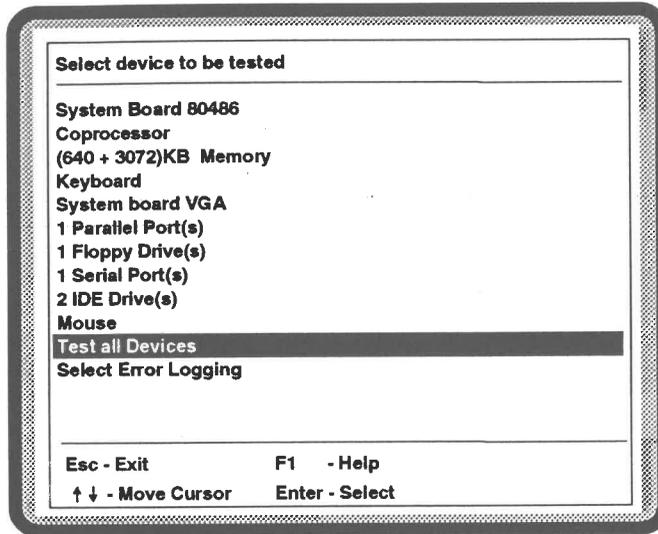

Figure 5-4 Device Selection Menu
5. When the **Device Selection Menu** is displayed (see Figure 5-4), selecting the **Test all Devices** option will provide the most comprehensive computer testing (you can also select just one specific device to be tested). Information regarding the tests that require operator response is presented in Sections 5.3.2 through 5.3.9. The tests are presented in the sequence in which they would run, had you selected **Test all Devices**. After making your selection, press Enter.